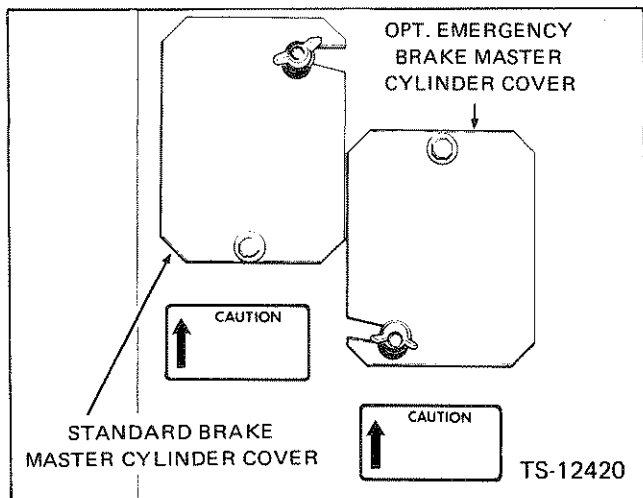

Fig. 13-2 Master Cylinder Locations
1. Fill the master cylinder with fluid. (Refer to Fig. 13-2)